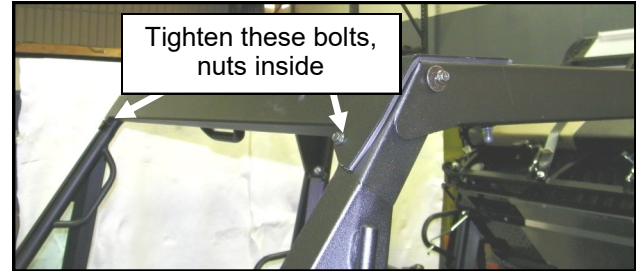

Fig. 9.1 Windshield support
- 9.1** Per figure 9.1, place the windshield support on top of the headers and A-pillars. Attach the windshield support to each A-pillar with a 1/4-20 bolt and nut. Tighten these bolts.